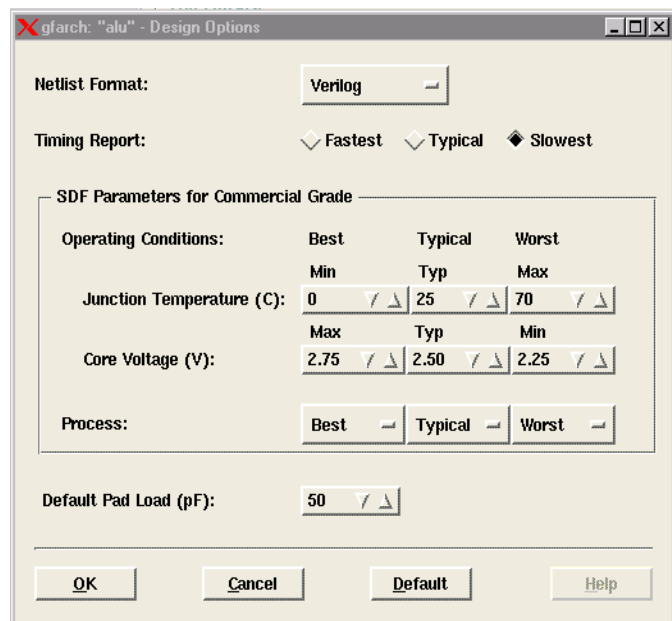

Figure 2-7. Design Options Window
1. **In the Design Executive window, choose the Design command from the Options menu.** The Design Options window is displayed, as shown in Figure 2-7.